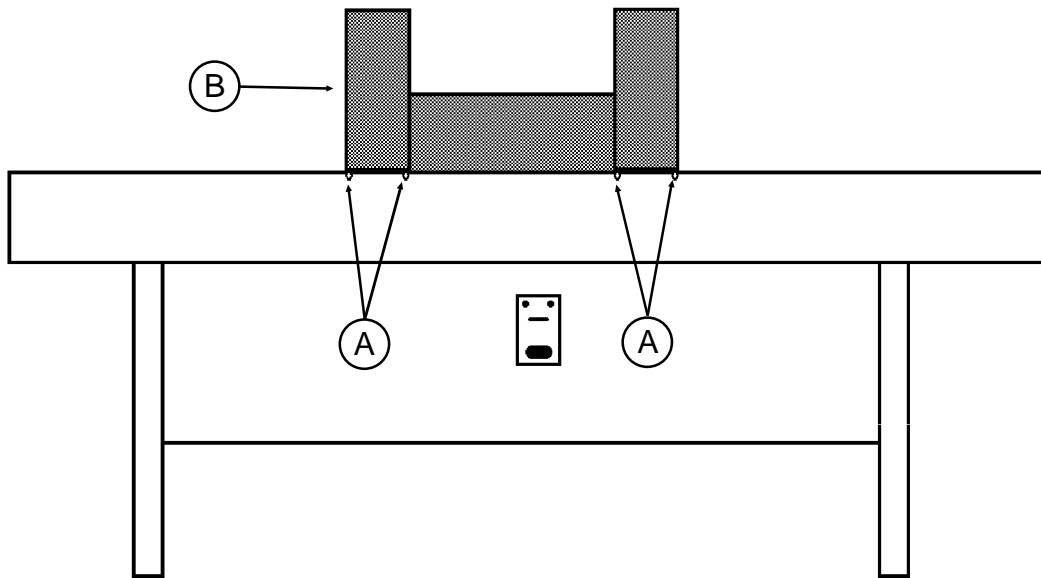

Figure 1
- B. Remove the eight Retaining Screws (Figure 1-A) holding the Center Cover (Figure 1-B) on the machine. Note that four of the Screws can only be reached from under the machine.